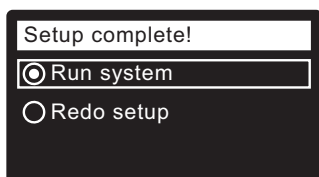

FIG. 29
14. Press the SELECT (O) button. The screen will show "Setup complete!" (See Figure 29).
15. If, at this point, you want to go back and make changes, press the DOWN (▼) button to scroll to **Redo setup**, then press the SELECT (O) button twice to repeat the "wizard" screens.
16. If no changes are desired, make sure **Run system** has a dot next to it (See Figure 29) and press the SELECT (O) button. The unit begins normal operation.